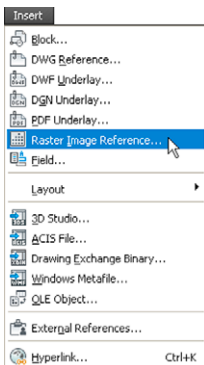
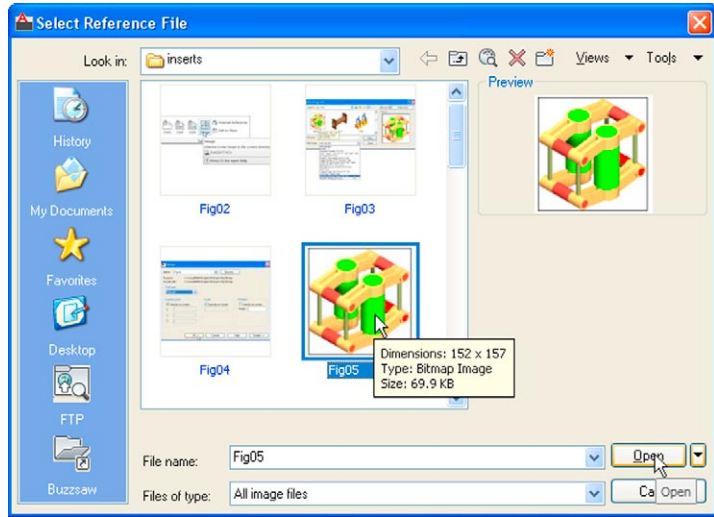

Fig. 10.8 Selecting **Raster Image Reference...** from the **Insert** drop-down menu
Fig. 10.9 The Select Reference File dialog
1. Click **Raster Image Reference...** from the **Insert** drop-down menu (Fig. 10.8). The **Select Reference File** dialog appears (Fig. 10.9). Click the file name of the image to be inserted, **Fig05** (a bitmap **\*.bmp**). A preview of the bitmap appears.